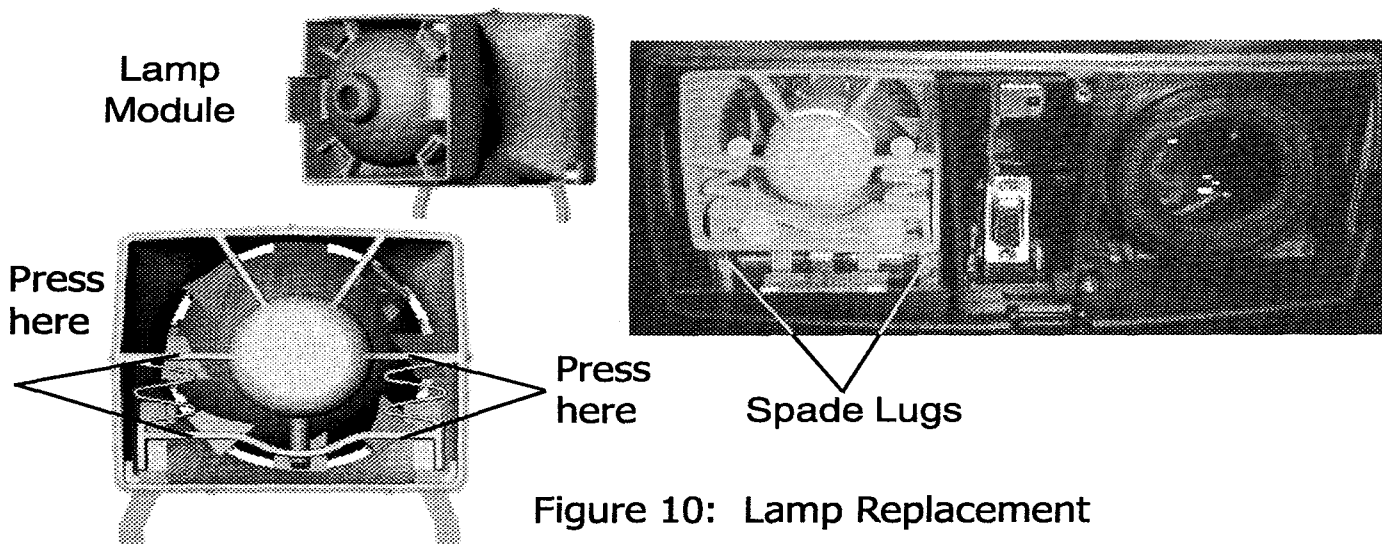

Figure 10: Lamp Replacement
5. Grasp the lamp module by the flanges using both hands, thumb at the bottom and forefinger on the top press points (see Figure 10 below) and compress the plastic spring. This action will result in lifting the two pins out of the connectors.
1. Insert the lamp module fully into the lamp cavity. Grasp the lamp by the flanges using both hands, thumbs at the bottom and forefingers on the top press points (see Figure 10 below). Compress the plastic spring. This action will lift the pins above the mating connectors and allow the module to fully seat. Press the module lightly and locate the pins directly over the connectors and release. Be sure that the pins slide between the halves of the connectors. **The spade connectors must be inserted completely into the mating connectors.**